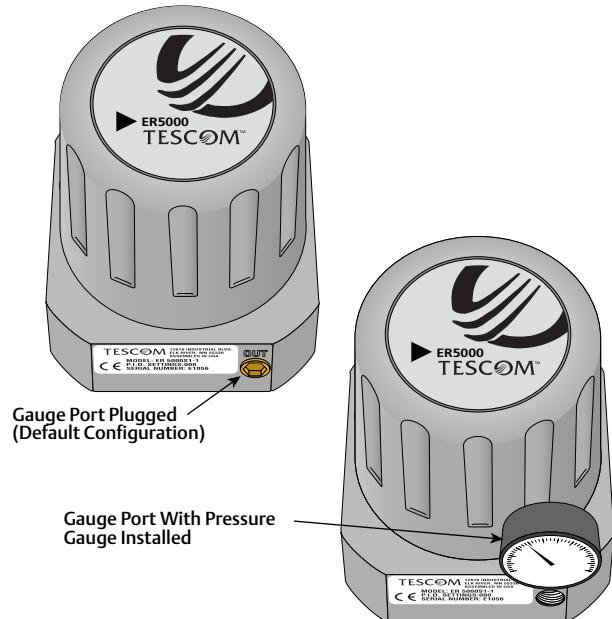

Figure 66: Gauge Port Plugged, and with Pressure Gauge Installed
- The gauge port must be plugged if a gauge is not installed, as shown in Figure 66. If a gauge is installed, there must be a proper air tight seal.